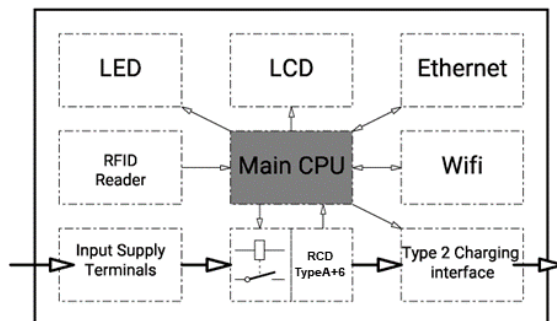

Fig. 4-2 Block diagram of products
- GMR AC EV charging station provides a 4.3-inch LCD screen, with the corresponding control, metering and communication functions, belongs to the special AC power supply device for EV. The block diagram is shown as Fig. 4-2.